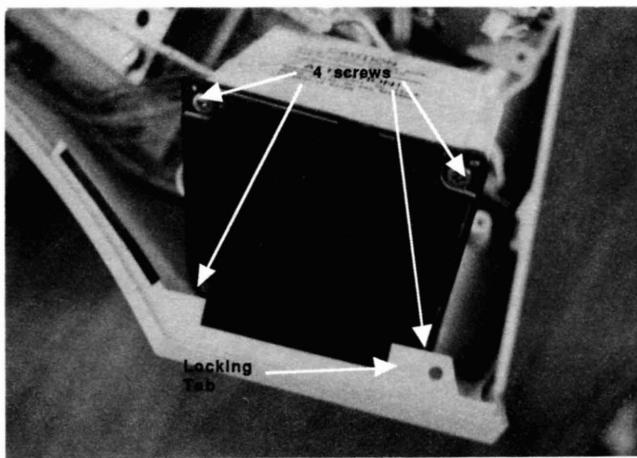

Figure 15
B. Tilt tweeter slightly back and out (from bottom of tweeter enclosure) to pull it away from the tab which secures it (Figure 15).
C. Remove the 4 screws which secure the tweeter to the box (Figure 15).
C. Secure the tweeter with 4 screws (Figure 15).
D. Replace the tweeter enclosure by tilting it slightly forward and under the tab on the plastic chassis (Figure 15).
F. Secure the PCB module by re-installing 4 screws (Figure 15).
C. Tilt tweeter enclosure slightly back and out (from bottom) to pull it away from tab which secures it (Figure 15).
D. Remove the 4 screws which secure the tweeter speaker to its enclosure (Figure 15).
- C.** Secure the tweeter with 4 screws (Figure 15).
- D.** Replace the tweeter enclosure by tilting it slightly forward and under the tab on the unit (Figure 15).